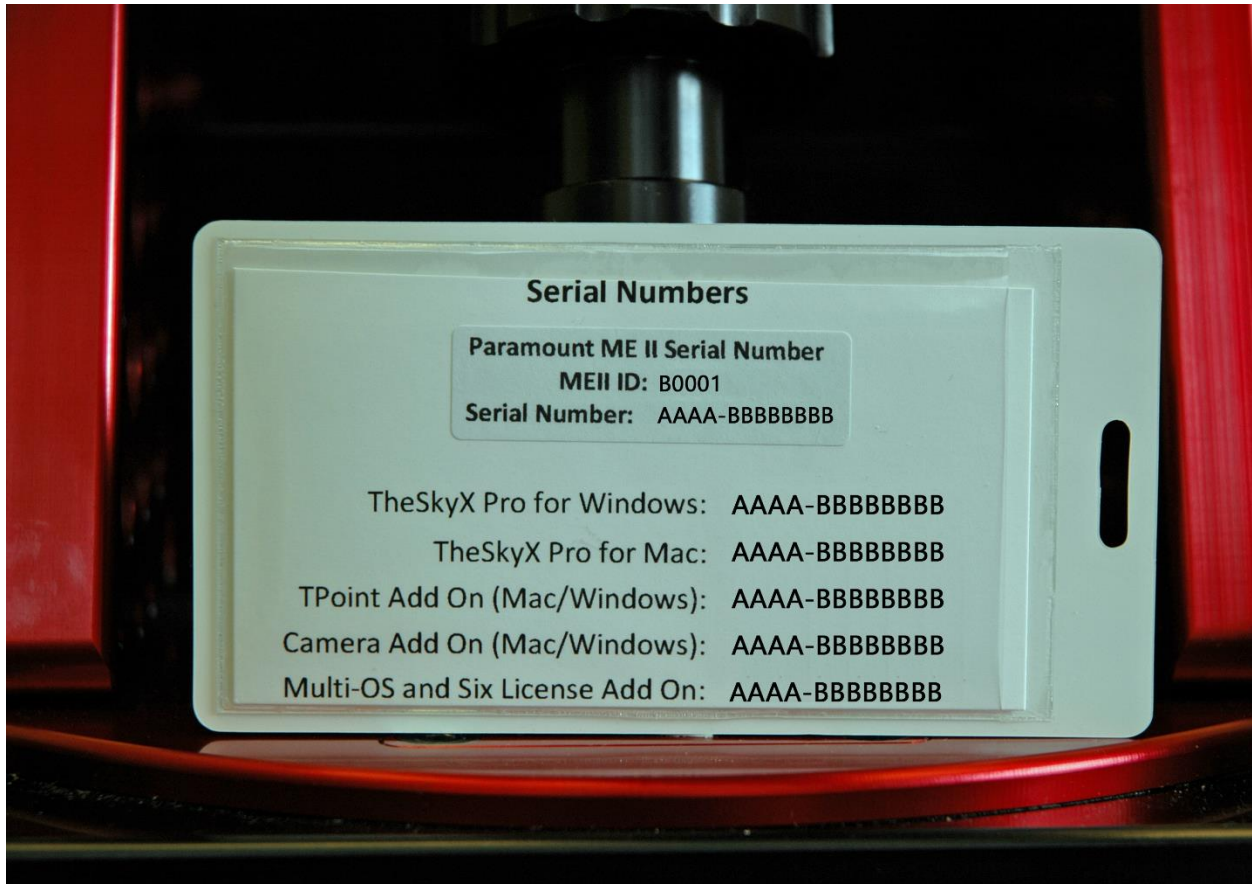

Figure 12: Serial numbers are attached to the altitude adjuster.
*The Paramount and software serial numbers are attached to the altitude adjuster (Figure 12). Please retain this card for your permanent records.